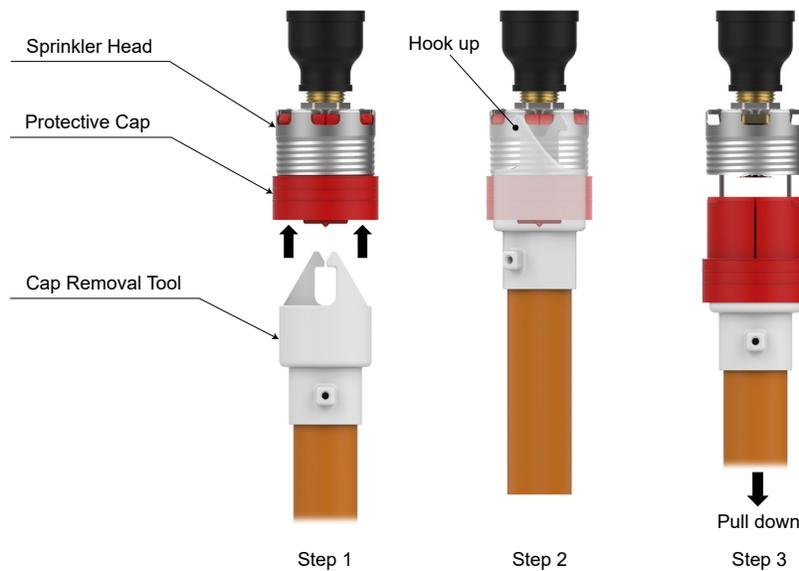
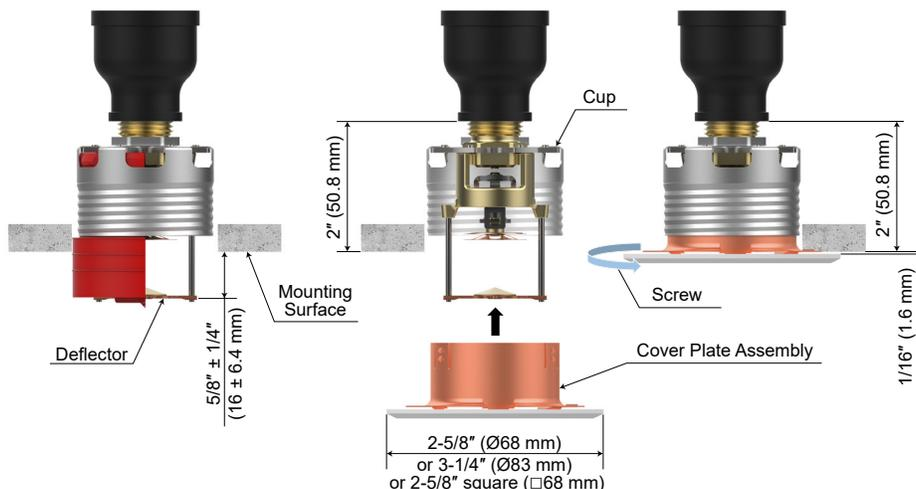
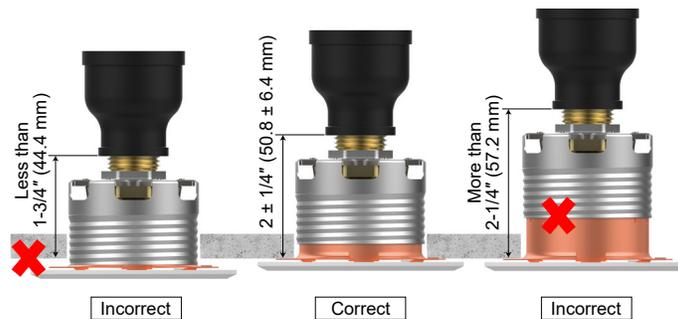

Figure 5: Protective Cap Removal
Figure 6: Installation (Cover Plate Assembly)
Figure 7: Installation (Correct and Incorrect)
Step 4: Use the Cap Removal Tool for RC to remove the Protective Cap (Ref. Figure 5), and then push or screw a Cover Plate Assembly on the Cup of the Sprinkler by hand until its flange just has contact with the ceiling (Ref. Figure 6 and
Figure 7). Stop tightening the Cover Plate Assembly once the flange has contact with the ceiling. If the ceiling has been lifted from its normal position in the process of tightening the Cover Plate Assembly, readjust the cover plate assembly as necessary. If the flange of the Cover Plate Assembly cannot contact the ceiling sufficiently, readjust the sprinkler fitting as necessary. When properly installed, there is a nominal 1/16 inch (1.6mm) air gap between the lip of the Cover Plate and the ceiling, as shown in Figure 6.
Install the cover plate assembly properly, as shown in Figure 6. Improper installation of the cover plate assembly may cause improper operation or non-operation.